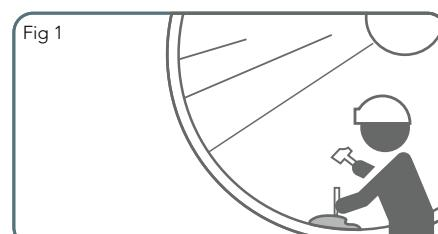

Fig 1
- Apply radial pressure to the gasket at the heart shaped loop (or cross loops) to force it into place. Check that gasket is located correctly around its whole circumference with its groove on the retaining bead in the socket and retaining heel firmly bedded in its seat. At time of insertion of the spigot end check alignment of the pipes and fittings. (See fig 1)